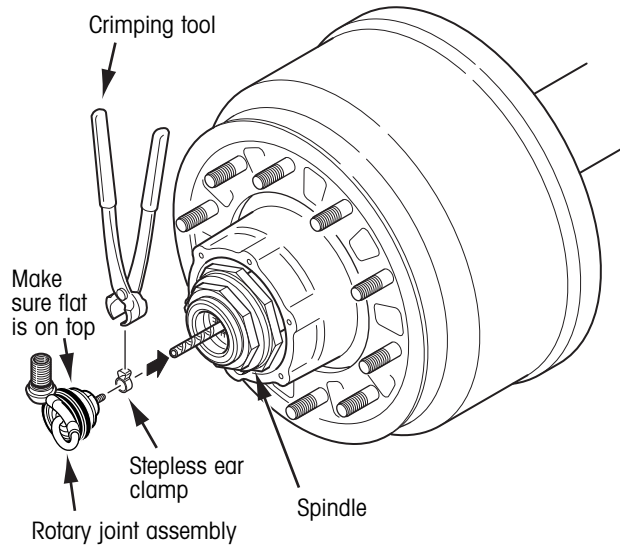

Figure 39. Rotary joint assembly installation
1. On one end of the axle, place the stepless ear clamp onto the braided hose assembly sticking out of the spindle (figure 39).